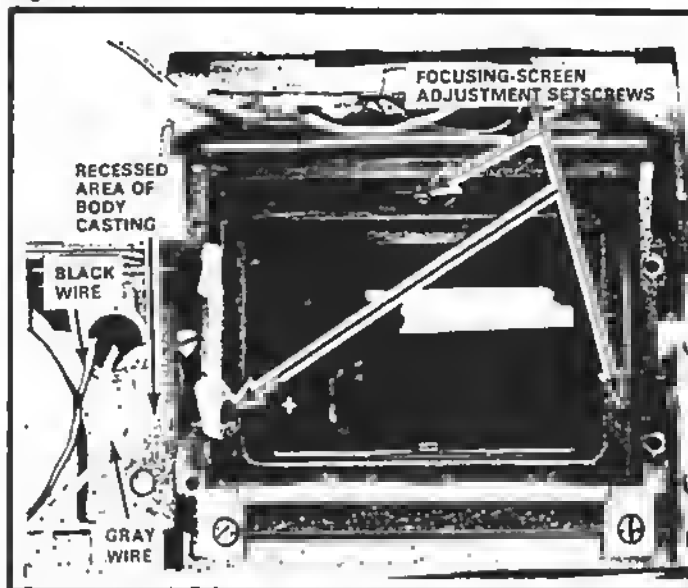
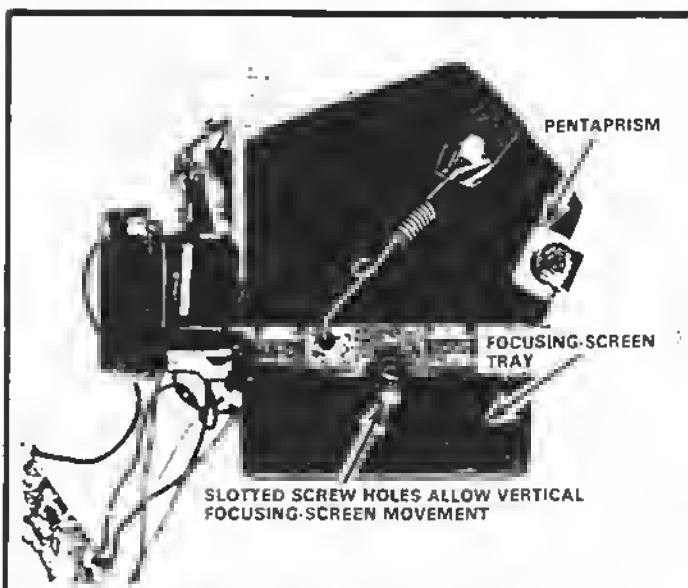

Figure 78
Figure 79 Assembly with pentaprism in place.
**REASSEMBLY:** Before replacing the exposure-meter assembly, check the positions of the two wires which pass through the camera-body hole, Fig. 78. The black wire is the one you unsoldered from the exposure-meter circuit board; the gray wire is the one you unsoldered from the hot-shoe terminal.
Make sure that both wires sit within the recessed area of the body casting, Fig. 78. If the wires sit above the raised section of the body casting, they'll be crushed by the galvanometer as you replace the exposure-meter assembly.
Also notice the three adjustment setscrews in Fig. 78. The spring-loaded focusing screen sits on top of these setscrews. You can see the focusing-screen tray at the bottom of the pentaprism frame, Fig. 79 (in Fig. 79 we've removed the exposure-meter assembly with the pentaprism still in place). Try pushing up the focusing-screen tray, Fig. 79 -- you'll then feel the spring tension.
The three setscrews, Fig. 78, provide your adjustment for the focusing-screen height. For example, say that the focus at the film plane is correct. But the image formed on the focusing screen is out of focus at infinity. You can then change the height of the focusing screen to adjust the focus of the viewed image.